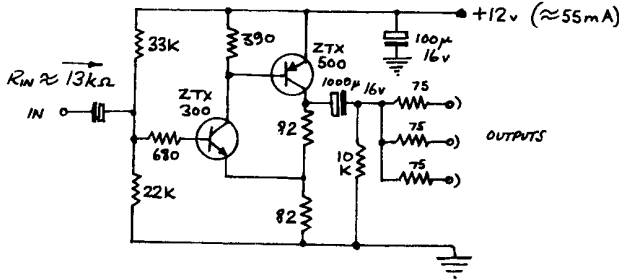

Fig.6 SIMPLE V.D.A. (SINGLE RAIL SUPPLY)
V.D.A's should have the capability of driving several mutually isolated 75-ohm outputs, all correctly terminated. The input impedance should be high enough to allow several (say 10) inputs to be paralleled across 75-ohms without measurably dropping the signal level. Figs 6,7 & 8 show examples.